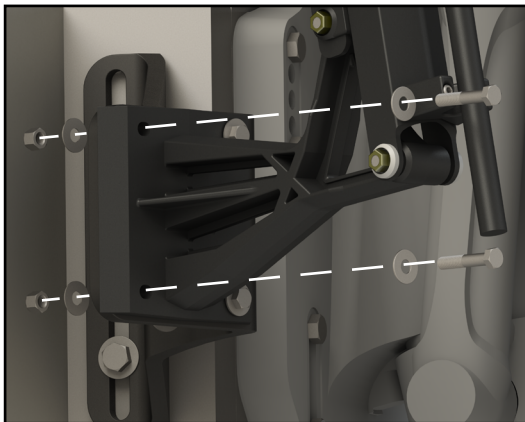

Fig. 4
10. Align the holes of the anchor's mounting bracket with the holes of the Jack Plate Mounting Bracket (Fig. 4).
11. Use the supplied SWA Mounting Kit 2023017309 (Fig. 4) to install the SWA Anchor to the Jack Plate.